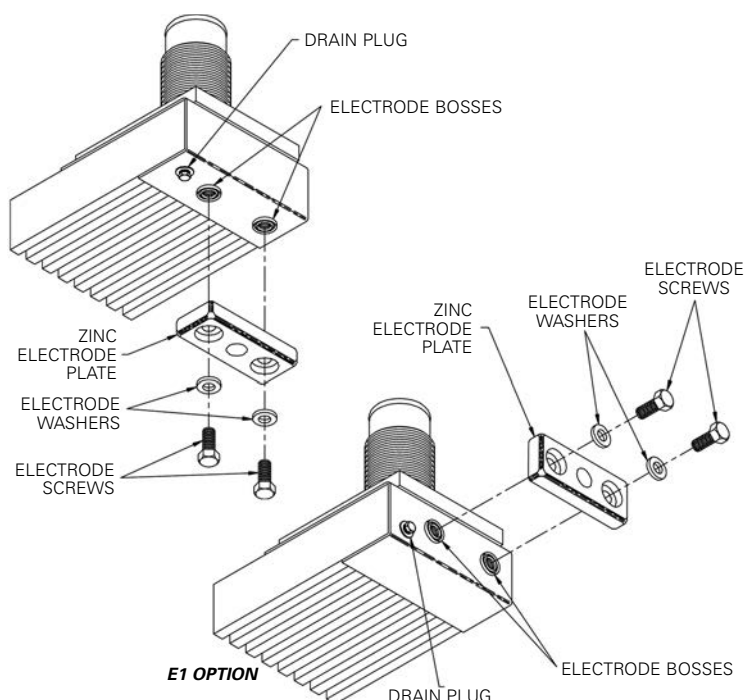

FIG. 11 Zinc Attachment Detail
- 2.3.4 Attach the zinc electrodes using the special bolts and washers supplied with the unit. They can be found in a cardboard box inside the unit shipping box. See Figure 11.